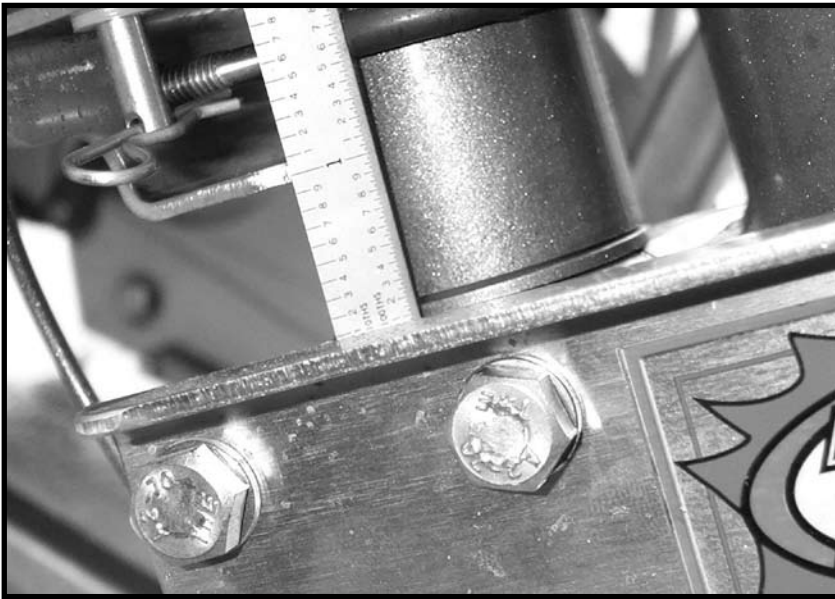

Figure 4
Locate the rod eye bracket (item #1) One (1) inch up on the Shock mount shroud above the cylinder Channel as shown in Figure 4.